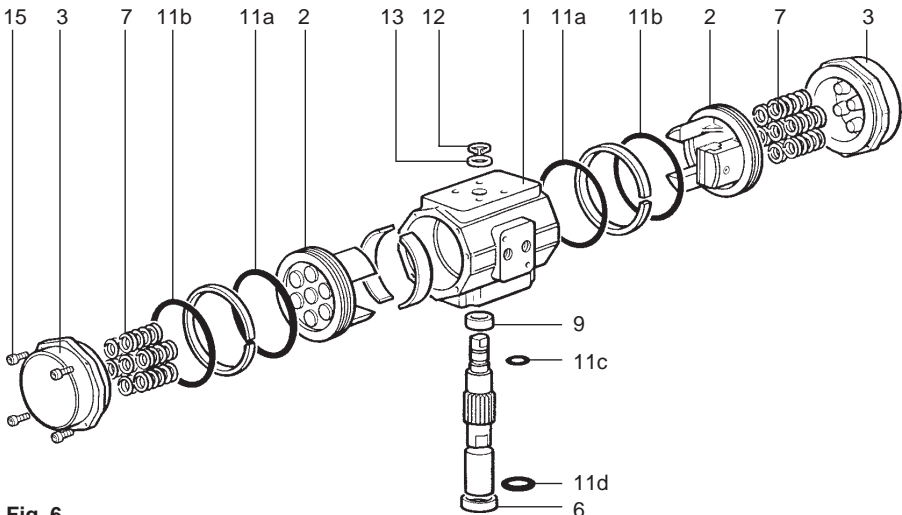

Fig. 6
- 3 Remove the actuator bracket (and switchbox if fitted) from the actuator to begin repair (note mounting position of bracket and positioner for easy reassembly). See fig 6.
- 5 Each end cap (3) is fitted on to the body (1) with a machined sleeve fit. Remove all screws (15) from both end caps. After the screws are removed gently prise off each end cap being careful not to damage the end cap 'O' rings.